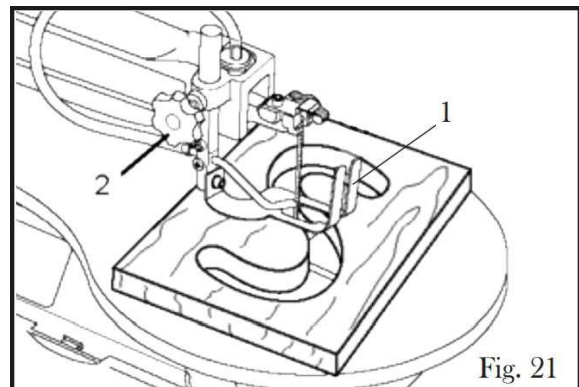

Figure 21
2. Raise the foot of the blade guard (1) by loosening the height adjustment knob (2). See figure 21.
4. Tighten and secure the foot of the blade guard in place by tightening the height adjustment knob (2). See figure 21.
6. Tighten and secure the foot of the blade guard in place by tightening the height adjustment knob (2). See figure 21.